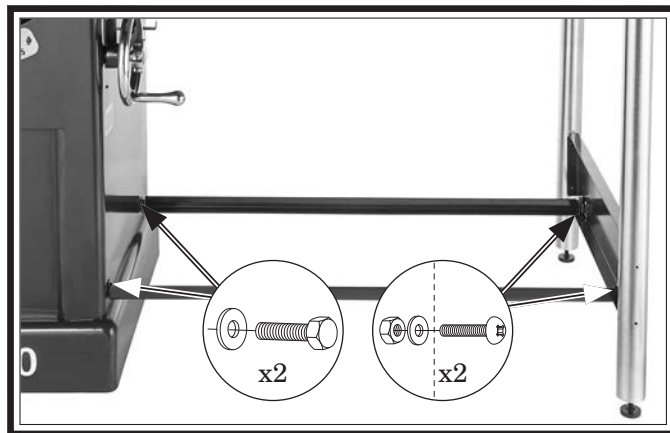

Figure 30. Shelf brackets installed.
- Place (2) shelf brackets between cabinet and support legs, and fasten with (2) M6-1 x 12 hex bolts, (2) M6-1 x 12 Phillips head screws, (4) 6mm flat washers, and (2) M6-1 hex nuts as shown in **Figure 30**.